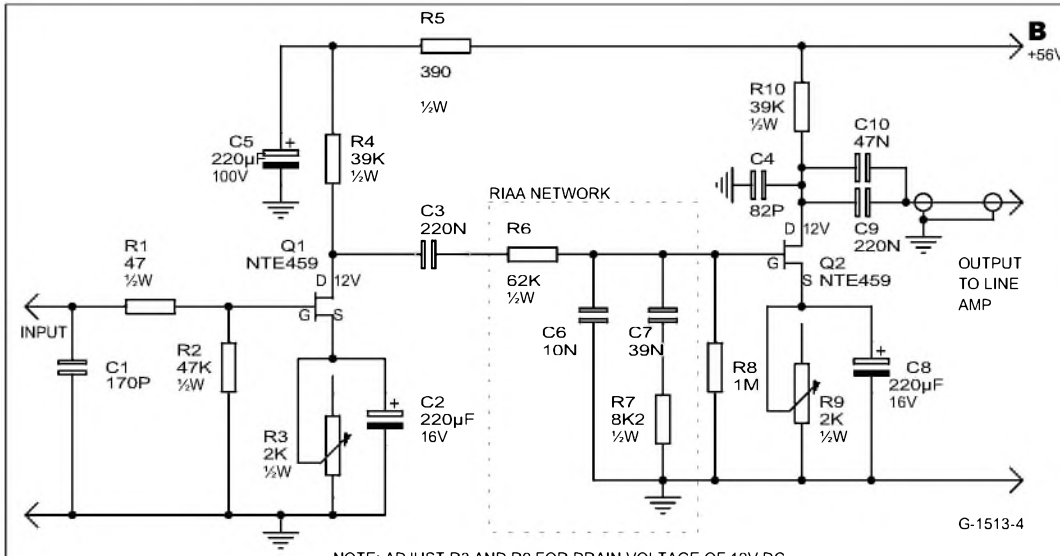

FIGURE 4: The phono amplifier schematic.
**Important:** The major design problem in dealing with the widely varying electrical characteristics of FETs is the shifting bias control point. The source bias R3 and R9 are adjusted for a drain voltage that provides minimum distortion of Q1 and Q2 (Fig. 4). I determined that minimum distortion occurred with the drain voltage via the load resistor set at 12V DC. It will be noted the source bias of the FETs varied considerably with the drain voltage set for 12V DC.
and mid-frequency bands are reproduced with exceptional clarity. FETs also have linear phase characteristics over their bandwidth for maximum signal integrity, low distortion, and high dynamics with output signals not exceeding 2V RMS. Refer to schematic diagram (Fig. 4) of the phono amplifier for further technical information.
In the phono amplifier section (Fig. 4), seven 5-pin terminal strips are required. Components mounted on these terminal strips are as follows (numbers indicate location order of terminal strips. Components that have one end tied to a terminal strip are not mentioned).